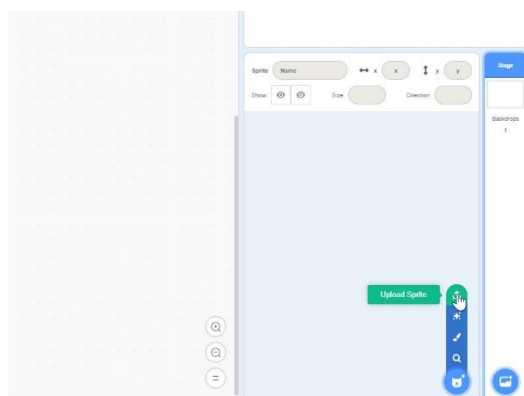

Figure 9
1. if we want to save time in the graphic construction part to invest more time to the programming part, you can use the Sprites already created for this project, as shown in **Figures 9 - 10 - 11 - 12**.